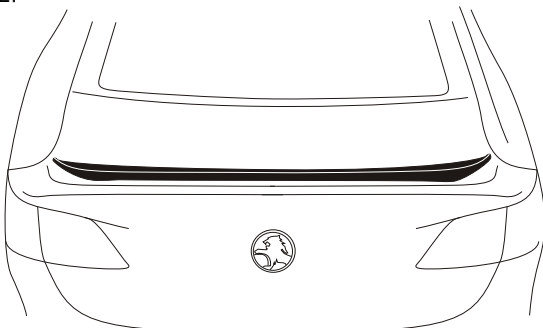

FIGURE 12
34. Once all the backing tape has been removed, apply firm pressure along the length of the spoiler for several seconds to ensure permanent adhesion. Refer to figure 12.